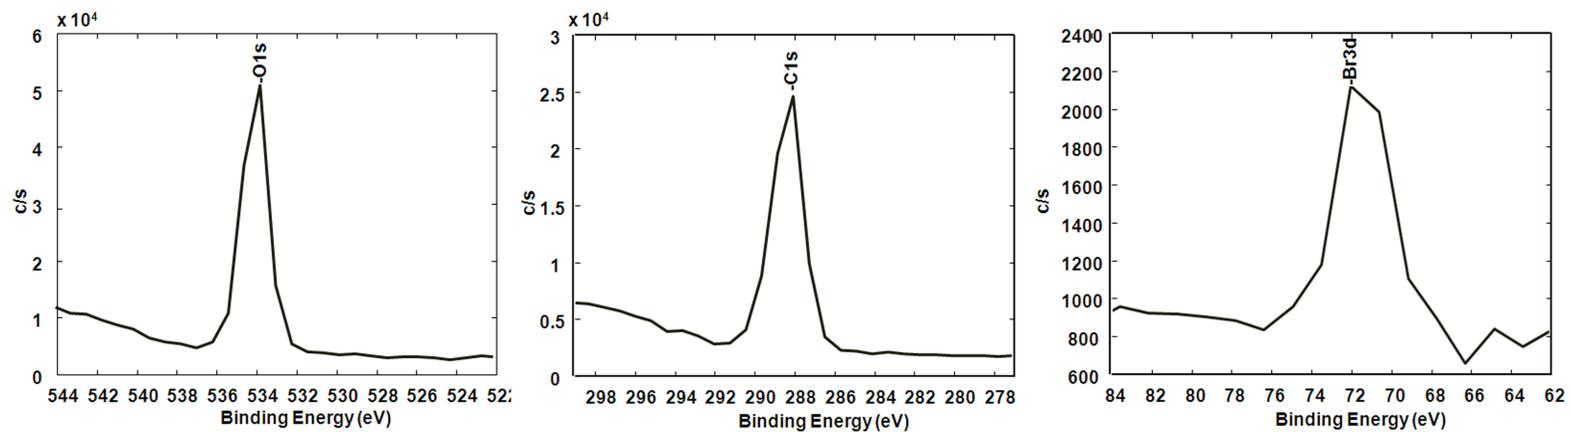

Fig. S6 XPS spectra of O1s, C1s, and Br3d regions of filter paper immobilized with initiator.
- 11 **Fig. S6** XPS spectra of O1s, C1s, and Br3d regions of filter paper immobilized with initiator.